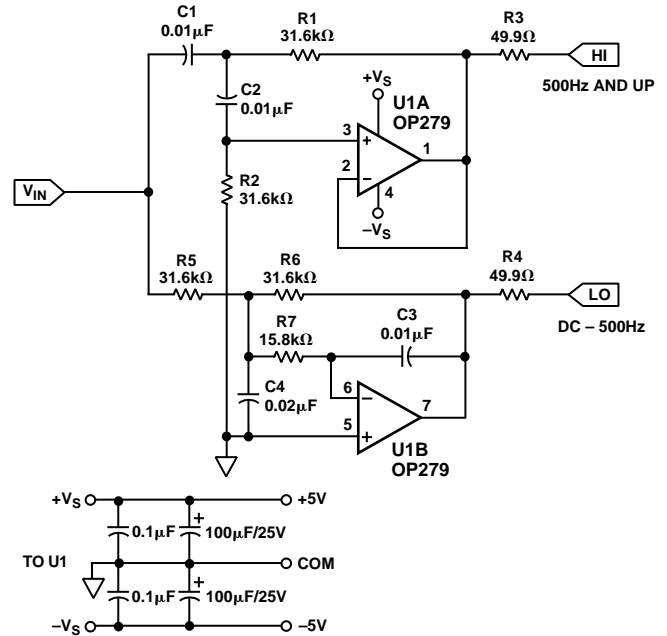

Figure 39. Two-Way Active Crossover Networks
Active filters are useful in loudspeaker crossover networks for reasons of small size, relative freedom from parasitic effects, and the ease of controlling low/high channel drive, plus the controlled driver damping provided by a dedicated amplifier. Both Sallen-Key (SK) VCVS and multiple-feedback (MFB) filter architectures are useful in implementing active crossover networks (see Reference 4), and the circuit shown in Figure 39 is a two-way active crossover which combines the advantages of both filter topologies. This active crossover exhibits less than 0.01% THD+N at output levels of 1 V rms using general purpose unity gain HP/LP stages. In this two-way example, the LO signal is a dc-500 Hz LP woofer output, and the HI signal is the HP (> 500 Hz) tweeter output. U1B forms a MFB LP section at 500 Hz, while U1A provides a SK HP section, covering frequencies  $\geq 500$  Hz.